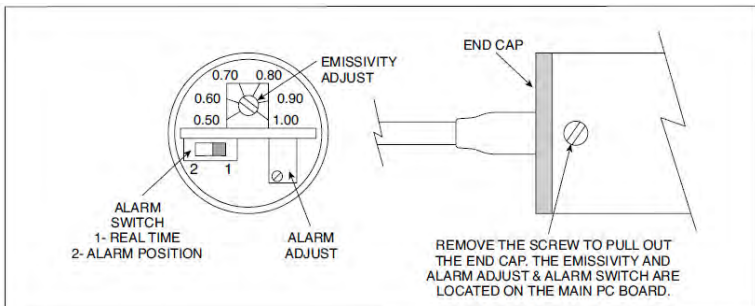

Figure 3-2. Location of Emissivity & Alarm Adjust and Alarm Switch
- Remove the End Cap to get to the Emissivity Single Turn Pot (Fig. 3-2). Set the Emissivity Pot based on the target surface. Then put back the End Cap.
- Remove the End Cap to get to the Alarm Switch and the Alarm Adjust (Fig. 3-2).
- Set the Slide Switch on the main board to the Alarm position (2).